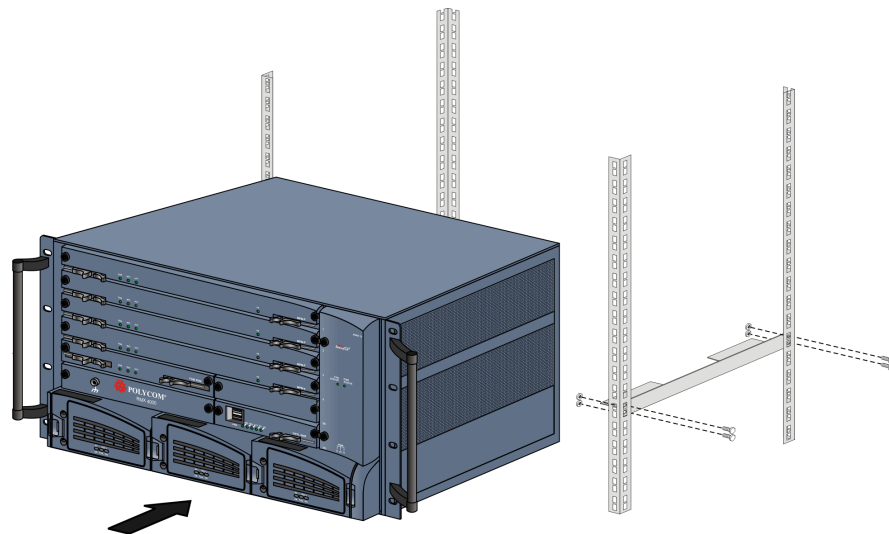

Figure 1-7 Installing chassis runners and RMX in a rack
- 1 When the RMX is to be rack mounted chassis runners must be installed on the rack as shown in Figure 1-7. Two chassis runners are included in the *Rack Installation Accessories* kit and are attached facing inward from the outside of the 19"/23" rack mount.